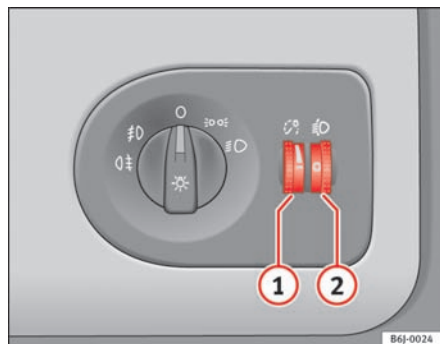

Fig. 52 Instrument panel: regulation for instrument and switch illumination and headlight range control
When headlights are switched on, the brightness of the instruments and switch lighting can be regulated to suit your requirements by turning the thumb wheel ⇒ fig. 52 ①